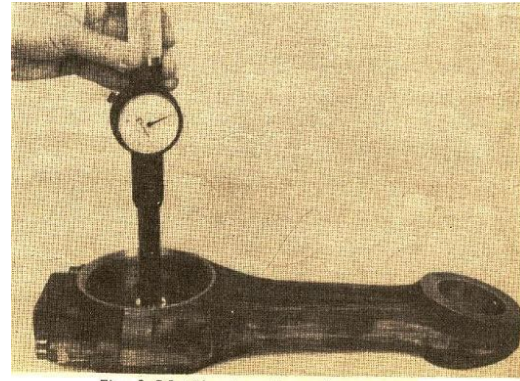

Fig. 1-23. Check rod crankpin bore
3. Measure the crankpin bore with a dial bore gauge or inside micrometer Fig. 1-23.